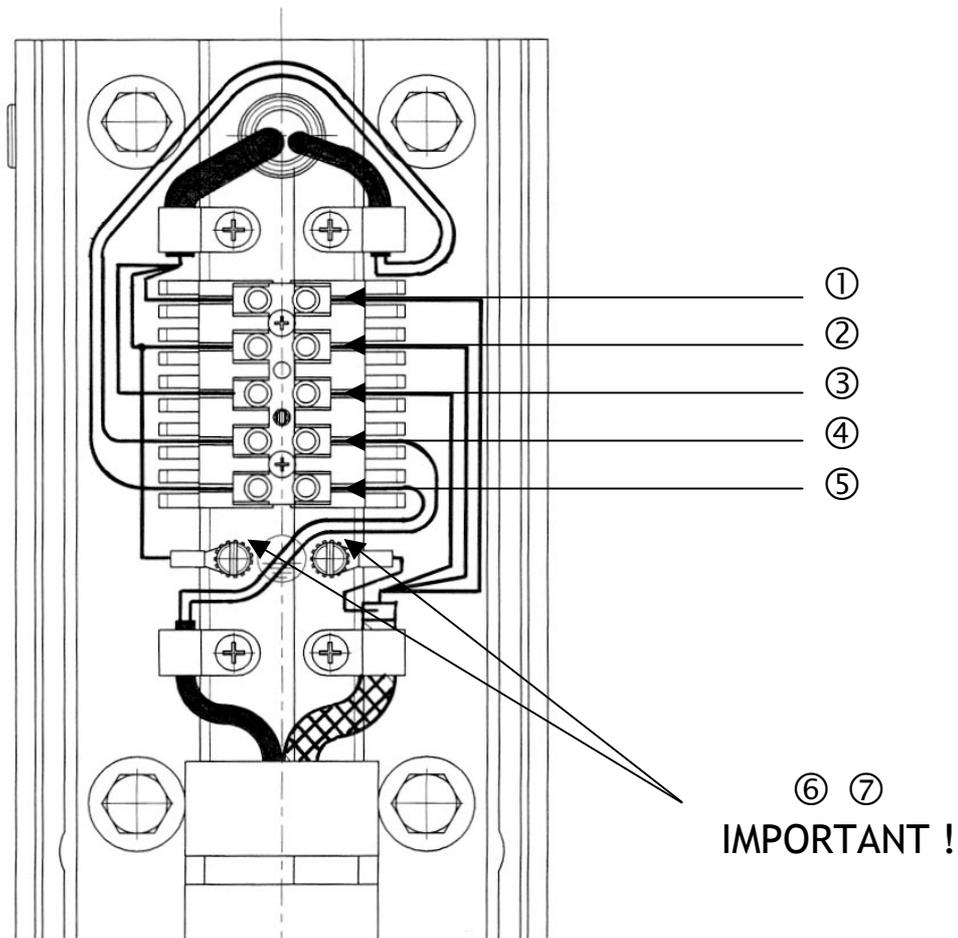

Fig. 11
2. Proceed with the electrical connection as shown in *Fig. 11*